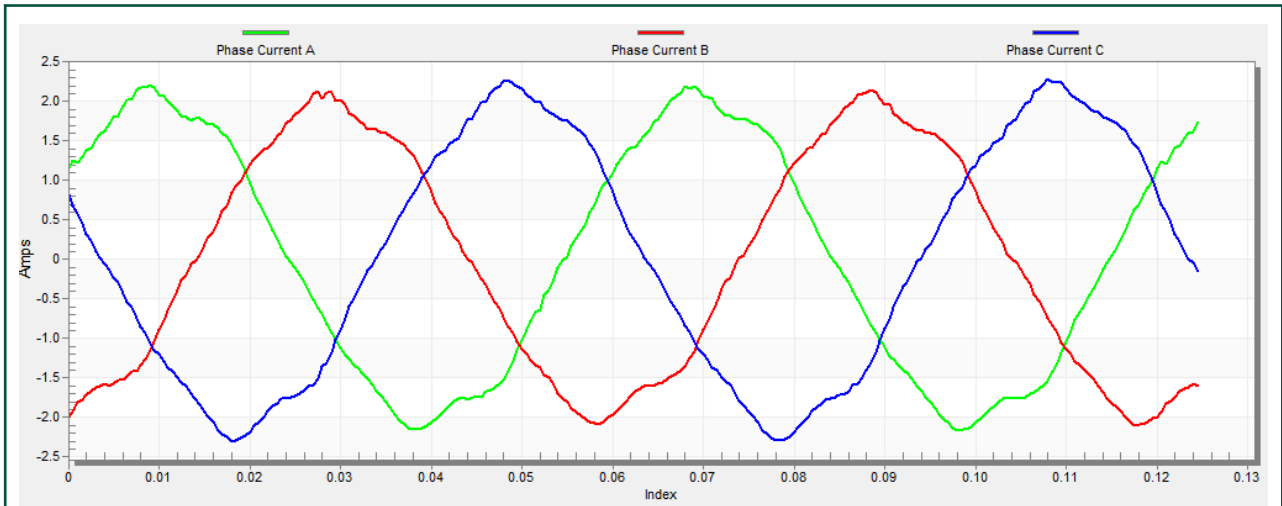

Figure 46. Phase currents
5. The optimal ratio for the V/Hz profile can be found by changing the V/Hz factor directly or using the “UP/DOWN” buttons. The shape of the motor currents should be close to a sinusoidal shape (Figure 46).